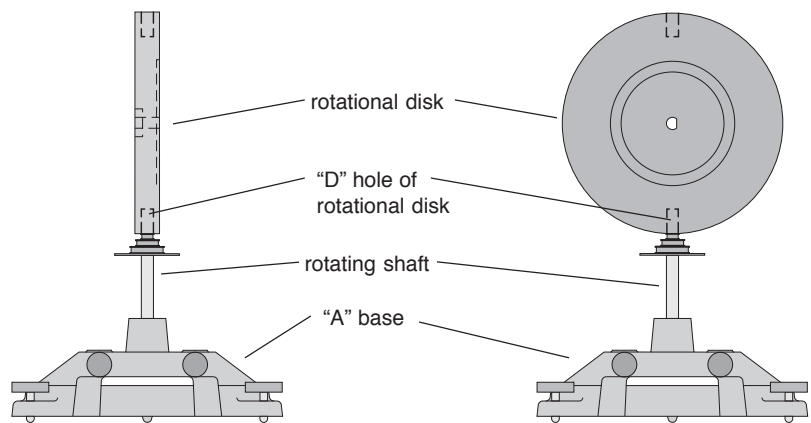

Figure 4.4
- 5. Remove the disk from the shaft and rotate it up on its side. Mount the disk vertically by inserting the shaft in one of the two “D”-shaped holes on the edge of the disk. See Figure 4.4.